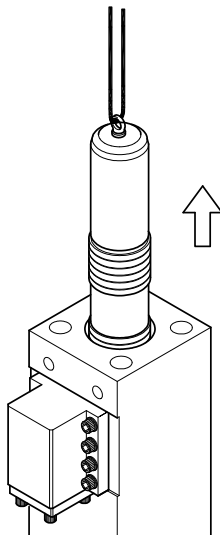

Fig. 8-6
- 6) Disassemble piston with eye bolt toward upper vertically, using chain block or hoist to the arrowed/pointed direction. => Fig. 8-6.